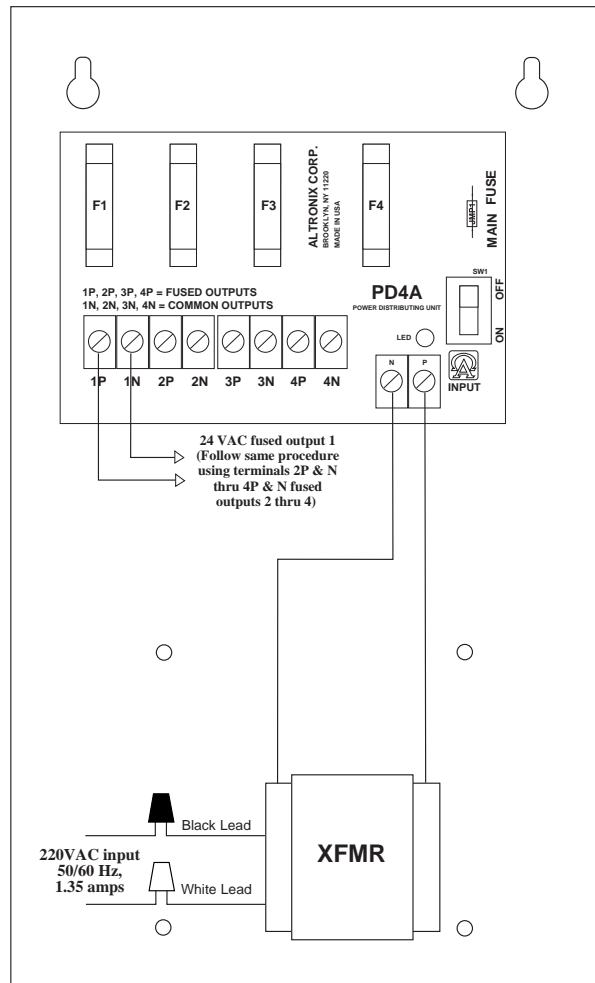

Fig. 1
2. Slide switch SW1 (Fig. 1) to OFF position.
3. Connect the AC (220VAC 50/60 Hz) to the black and white flying leads of the transformer (Fig. 1).
4. Connect each camera to terminal pairs 1 to 4, marked [1P-1N thru 4P - 4N] (Fig. 1).
5. Slide switch SW1 (Fig. 1) to ON position.